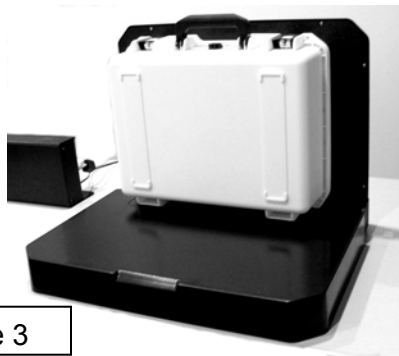

Figure 3
- Case—place the non-metallic case centered in the grooved outline on the top of the antenna pad (Figure 3).
- If the cartridge lies flat on the closed antenna pad, put the RFID label directly over the case outline. See Figure 3.